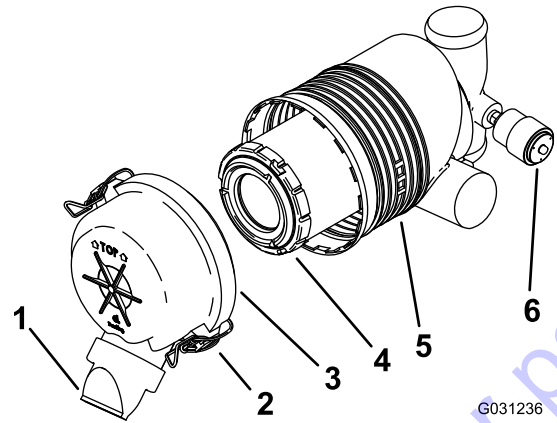

Figure 32
Important: Replace the air-cleaner filter only when the service indicator shows red (Figure 32). Changing the air filter before it is necessary only increases the chance of dirt entering the engine when you remove the filter.
5. Release the latches on the air cleaner and pull the air-cleaner cover off the air-cleaner body (Figure 32).
- If the service indicator is clear, install the air-cleaner cover with the dust cap oriented downward and secure the latches (Figure 32).
1. Gently slide the filter out of the air-cleaner body (Figure 32).
3. Carefully install the filter (Figure 32).
4. Install the air-cleaner cover with the dust cap oriented downward and secure the latches (Figure 32).